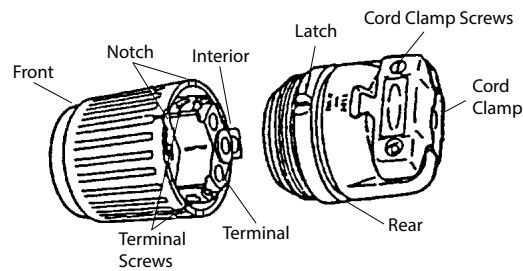

Fig. 1
- Loosen cord clamp screws and slide rear housing onto cable. See Fig. 1. When using 4/4 cord, replace the cord clamp screws with the longer ones provided.